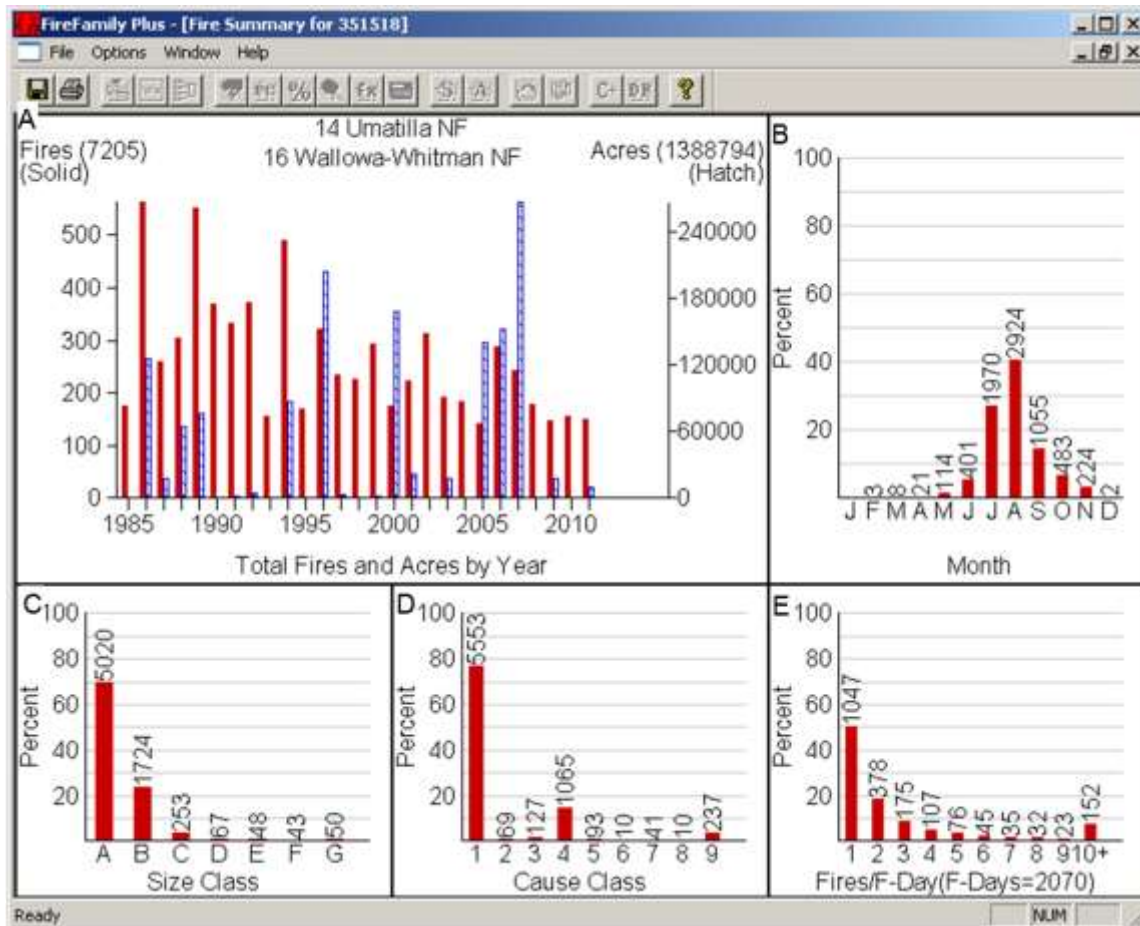

Figure 3-23—Fire summary charts.
- b) Open the fire summary graphics (**FFP menu**→**Fires**→**Summary**→**General** →**View Fires**, fig. 3-23).
- i) With the fire summary window open look at the various graphics created. The upper left quadrant (A) is the total number of fire and acres burned by year. The largest acreage year was 2007, and the year with the most fires was 1896. The upper left hand quadrant (B) is the percentage of fires that occur in each month. This can be used to determine the fire season. Based on the fires present July and August are the peak fire months with June, September and October also experiencing quite a few fires. The bottom graphics include the percentage of fires by fire size class (C), the percentage of fires by fire cause class (D), and the percentage of fires per fire-day that tax suppression resources (E). The majority of the fires in the record are small (class A= <0.25 ac) and are causes by lightning (1=lightning). For this data set the majority of the time a fire occurs it is the only fire to happen on that day (1,047 fires out of 2,070 fire days) the remainder are multi-fire days with 152 of the fire days having 10 or more fires (E). Close the fire summary window when you are done looking at it.